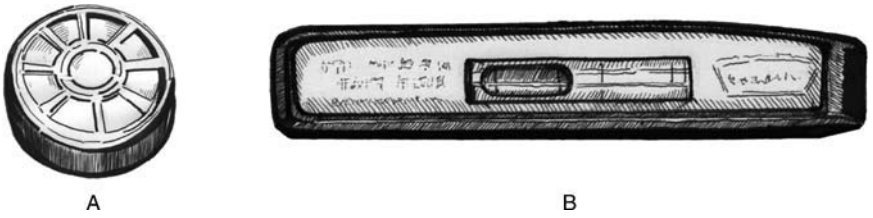

Figure D.9 A, Bubble level. B, Pocket level.
- Bubble level and small pocket level (see Figure D.9)